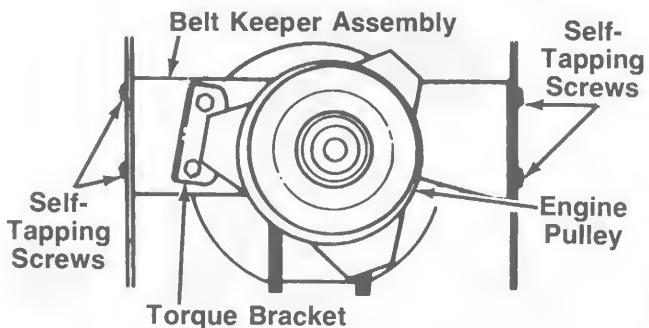

FIGURE 27.—Model 784G
- Remove the torque bracket by removing two hex bolts and washers. See figure 27.
- Remove the belt keeper assembly by removing the four self-tapping screws which hold the belt keeper assembly to the frame at the engine pulley. See figure 27.